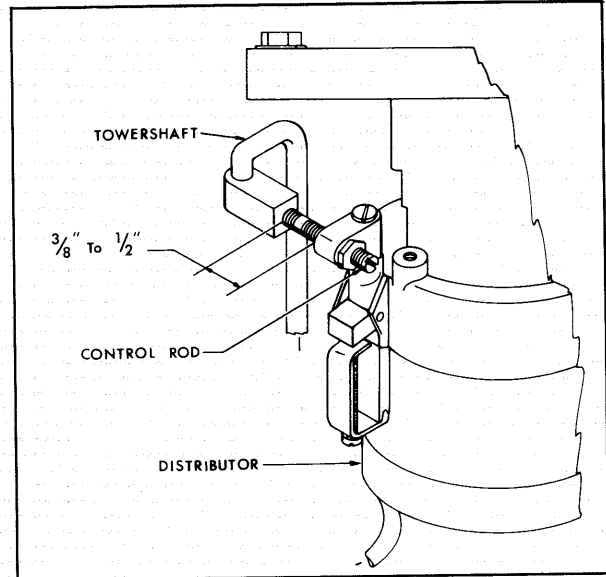

Figure 5 - Adjusting Distributor Control Rod
- K. Adjust distributor control rod so that distance between nylon swivels is $3/8$ to $1/2$ inch. See figure 5.
8. Loosen lock nut on distributor control rod. (See figure 5). Turn control rod until reading on voltmeter goes from A voltage to NO voltage. While holding control rod, tighten lock nut to secure rod in position.
3. Adjust control rod between towershaft and distributor. (See figure 5). Re-start engine and check timing at WOT. Repeat above procedure until 32° mark on fly-wheel aligns with index mark on timing pointer.